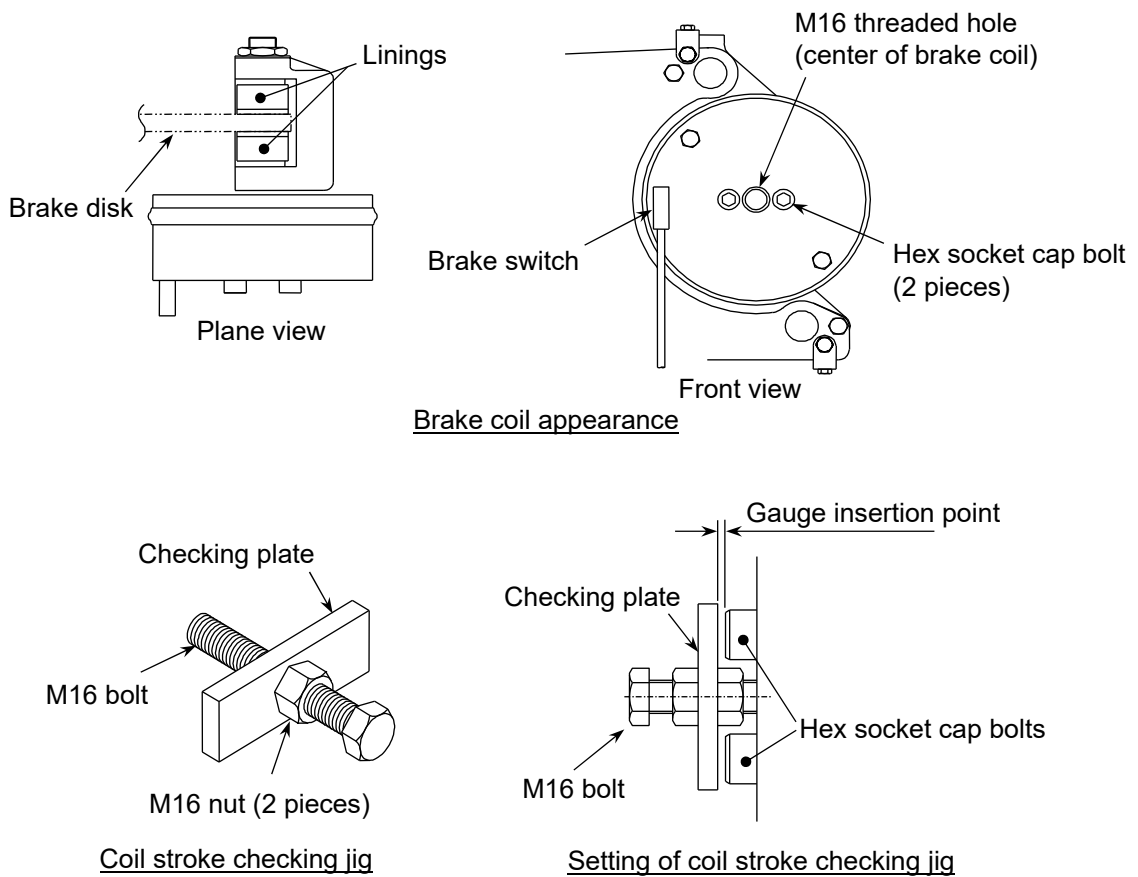

Fig. 29 Procedure for checking coil stroke of traction machine group Z
Prepare the coil stroke checking jig and the feeler gauge provided for the traction machine, referring to Fig. 29 and Table 13.
Set the coil stroke checking jig to the center of the brake coil in accordance with the procedure below. (Refer to Fig. 29.)
- i) Assemble the coil stroke checking jig as shown in Fig. 29 and attach it to the center of the brake coil.
Danger	 Once the checking plate comes in contact with the hex socket cap bolts, do not tighten the M16 bolt further. It is very dangerous because the brake may be released forcibly. (Refer to Fig. 29.)